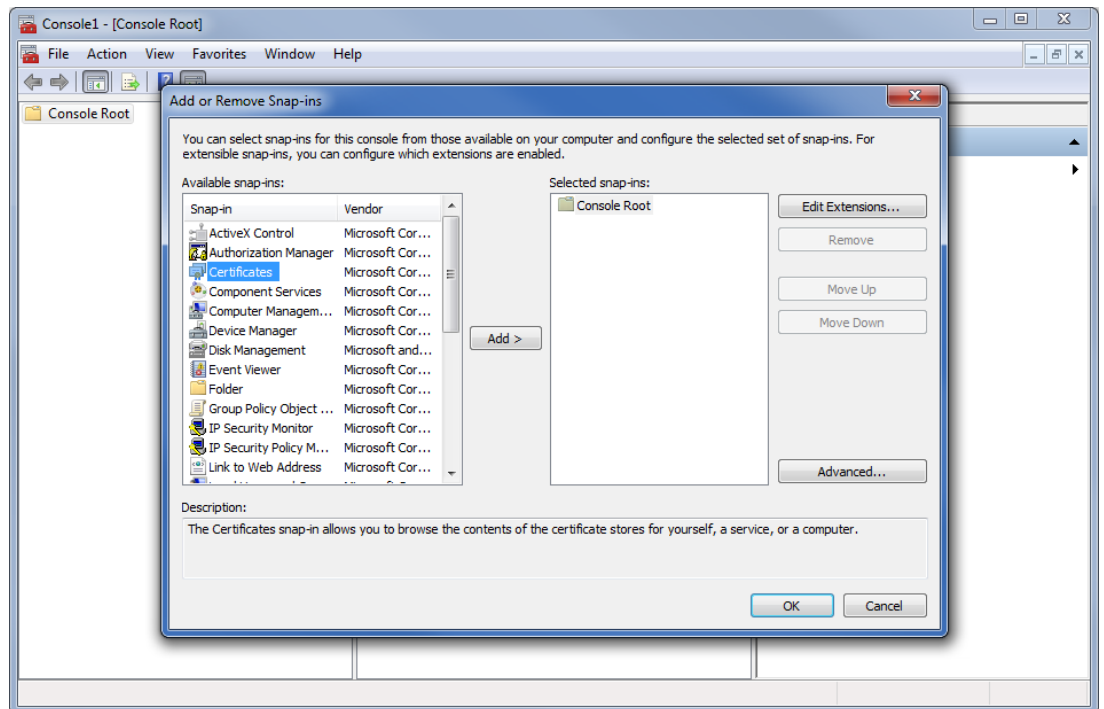

Fig. 2-2: Add/Remove Snap-in
2. Click on **File** and select **Add/Remove Snap-in...** from the displayed menu. The 'Add/Remove Snap-in' window is displayed (Figure 2-2).